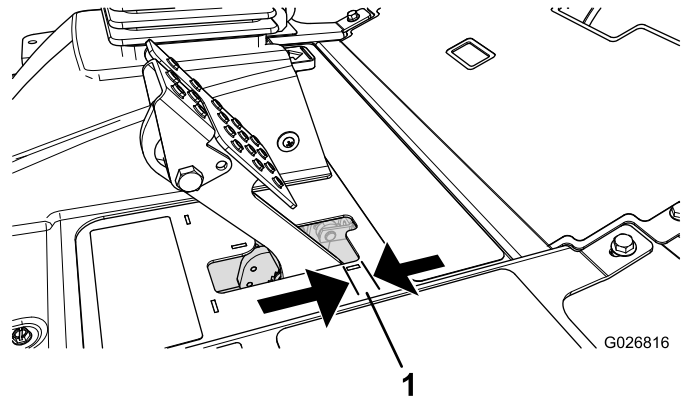

Figure 51
Adjust the brakes when there is more than 2.5 cm (1 inch) of free travel (Figure 51) of the brake pedal, or when more holding force is required. Free travel is the distance the brake pedal moves before you feel braking resistance.
2. Tighten the rear nut to move the cable backward until brake pedals have 0.63 to 1.27 cm (1/4 to 1/2 inch) of free travel (Figure 51), before wheel lock up is achieved.